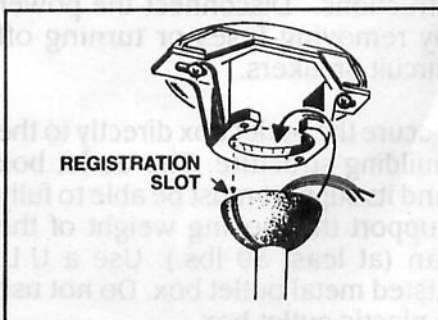

FIG. 10
Step 6. Now lift motor assembly into position and place downrod ball into hanger bracket. Rotate until the check groove has dropped into the registration slot and seats firmly. (Fig. 10). Rod should not rotate if this is done correctly.